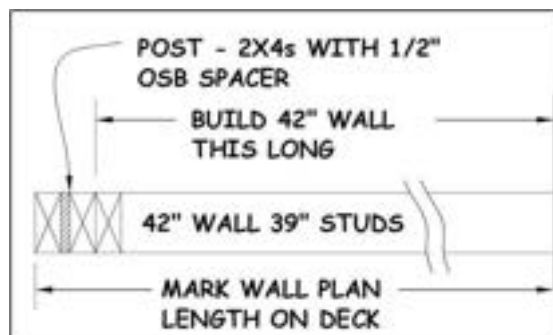

Figure 3-13. Marking Wall Plan on Deck.
- b. Mark the wall with the full wall length, including the 3½" x 3½" end post (see Figure 3-13).